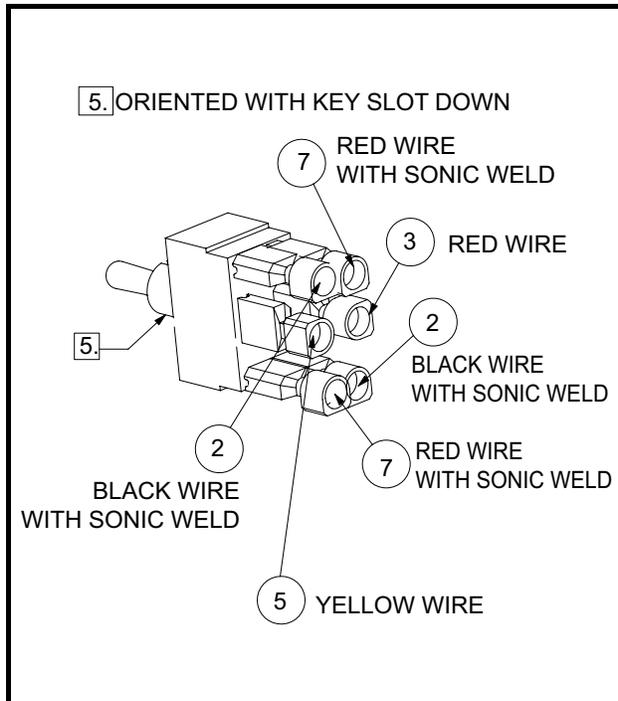

Figure 12b-19 Bed Lift Switch Wiring
1. Connect the wires to the bed lift toggle switch as shown (**Figure 12b-19, Page 12b-19**).